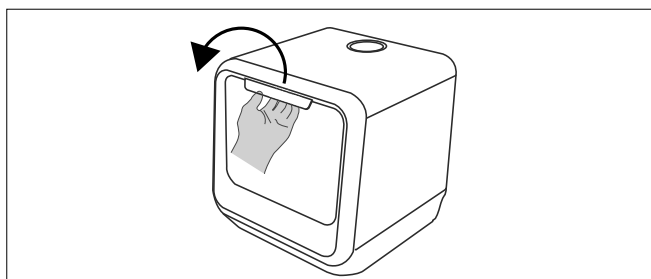

Fig. 12 – Opening the door
- ▶ Hold the recessed grip (1) and open the door by pulling it towards you. Open the door completely (see **Fig. 12**).